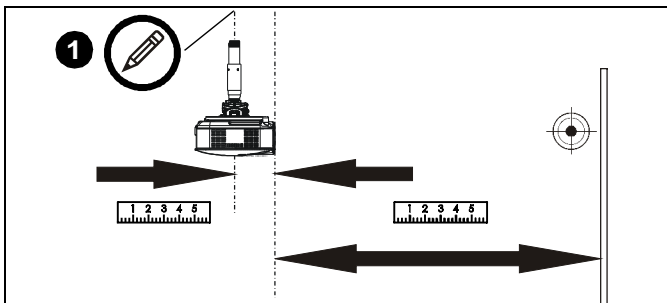

Figure 1
1. Determine exact location of extension column (not included) on suspended ceiling. Mark location on lower (finished) side of ceiling tile with pencil. (See Figure 1)